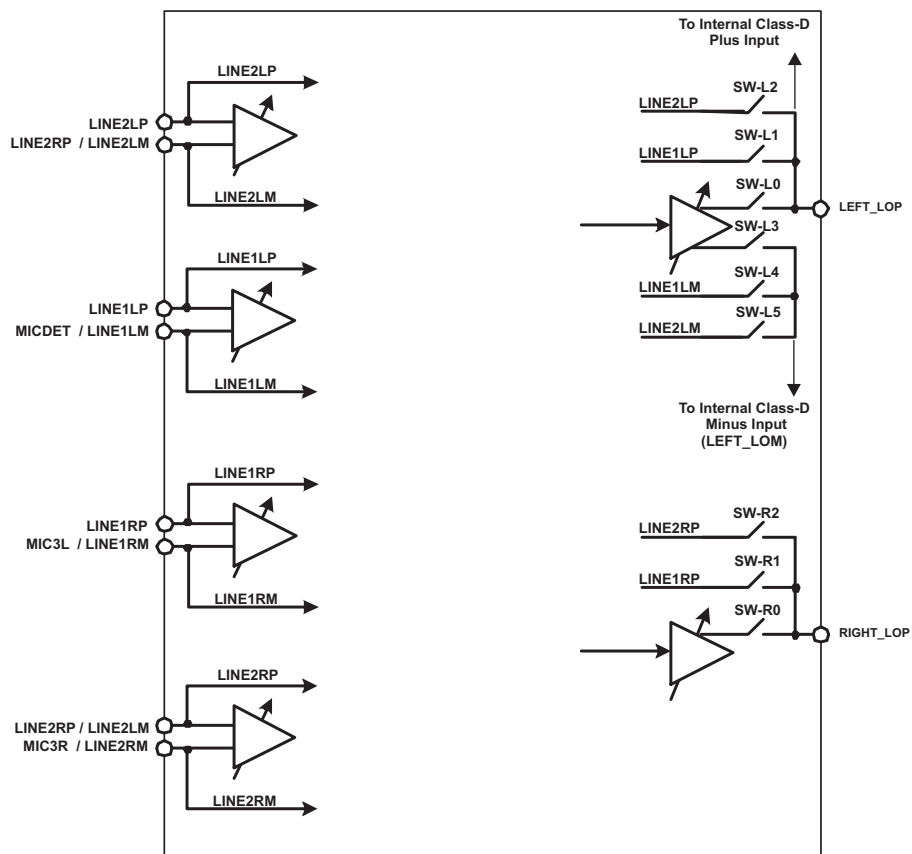
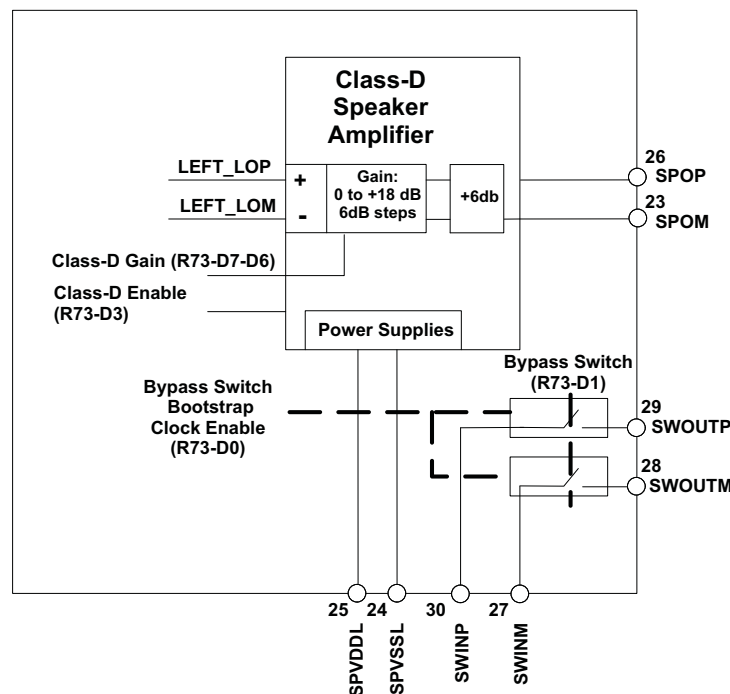

Figure 32. Passive Analog Bypass Mode Configuration
Figure 39. Differential Class-D Speaker Circuit
Programming the TLV320AIC3107 to Passive Analog bypass occurs by configuring the output stage switches for pass through. This is done by opening switches SW-L0, SW-L3, SW-R0, and closing either SW-L1 or SW-L2 and SW-R1 or SW-R2. See Figure 32 Passive Analog Bypass Mode Configuration. Programming this mode is done by writing to Page 0, Register 108.
Connecting MIC1RP/LINE1RP input signal to the RIGHT_LOP pin is done by closing SW-R1 and opening SW-R0, this action is done by writing a “1” to Page 0, Register 108, Bit D4. Connecting LINE2RP/LINE2LM input signal to the RIGHT_LOP pin is done by closing SW-R2 and opening SW-R0, this action is done by writing a “1” to Page 0, Register 108, Bit D6. A diagram of the passive analog bypass mode configuration can be seen in Figure 32.
Differential Class-D speaker outputs are available on the SPOP and SPOM pins as shown in Figure 39. The integrated Class-D speaker amplifier can drive a one Watt audio signal into a differential 8-Ω load. The plus input to the Class-D amplifier is the same signal available at the left lineout LEFT_LOP pin. The minus input to the Class-D amplifier is an internal signal that is sourced as shown in Figure 32. A register (73) is used to enable the Class-D amp and set its gain control (0 dB to +18 dB). Following the gain control and before the outputs is a fixed +6 dB gain. Note that there are many other gains available in the signal path leading up to the Class-D amp so for best results the user must map the gains correctly.